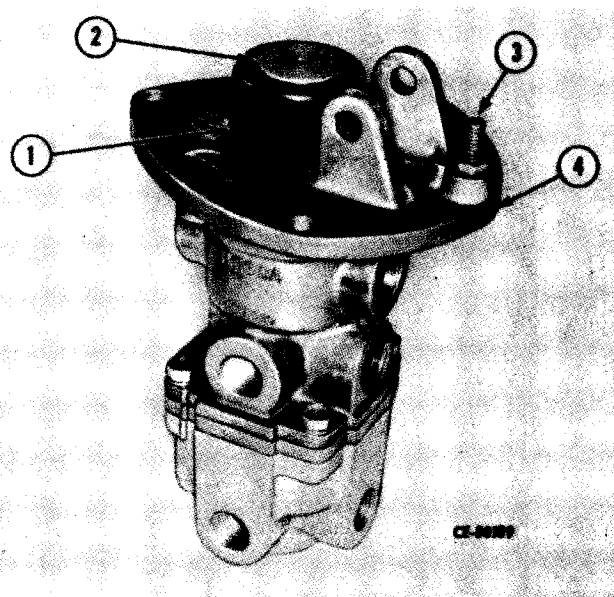

Figure 13-27
NOTE: On the late type brake systems the treadle valve furthest to left of operator has one section more than right hand valve. This extra "Tandememergency" section provides for automatic application of vehicle brakes in case of air failure. The following disassembly instructions up to and including removal of plunger boot (Fig. 13-27) are applicable for both valves.
Remove rubber boot (1, Fig. 13-27) from plunger (2) and mounting plate (4). Remove treadle stop nut and set screw (3) from mounting plate.